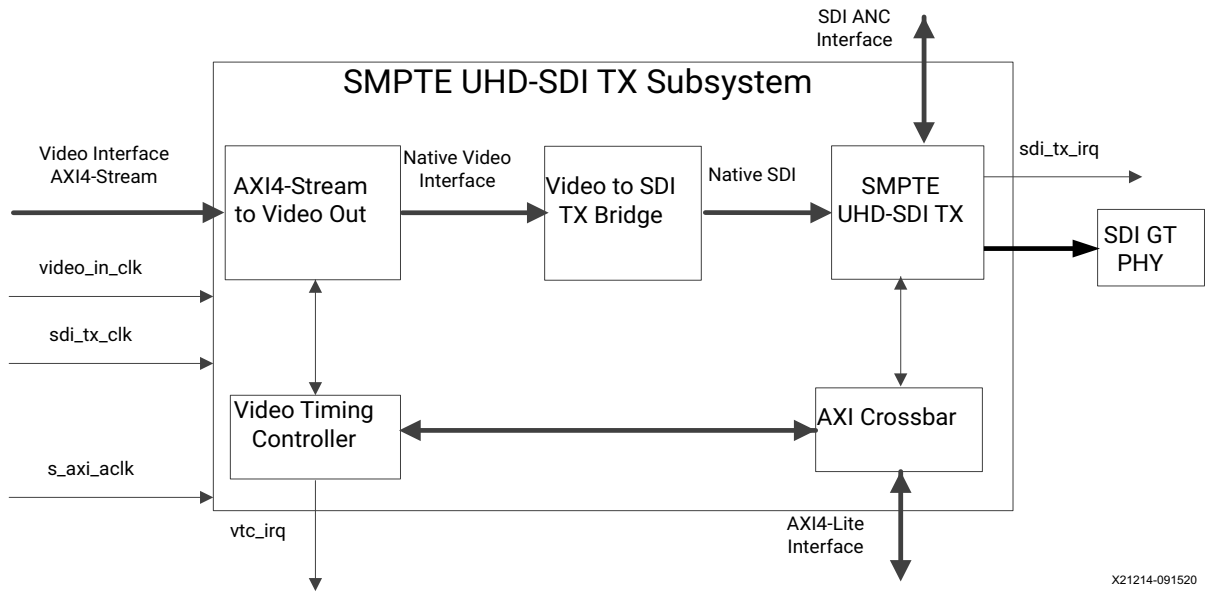

Figure 1-1: SMPTE UHD-SDI TX Subsystem (AXI4-Stream I/F) Architecture
The SMPTE UHD-SDI Transmitter (TX) Subsystem allows you to quickly create systems based on SMPTE SDI protocols. It accepts either an AXI4-Stream video stream, native video stream, or native SDI stream. It outputs a native SDI stream when combined with the SMPTE UHD-SDI core. The top level customization parameters select the required hardware blocks needed to build the subsystem. Figure 1-1 shows the subsystem architecture with an AXI4-Stream interface.